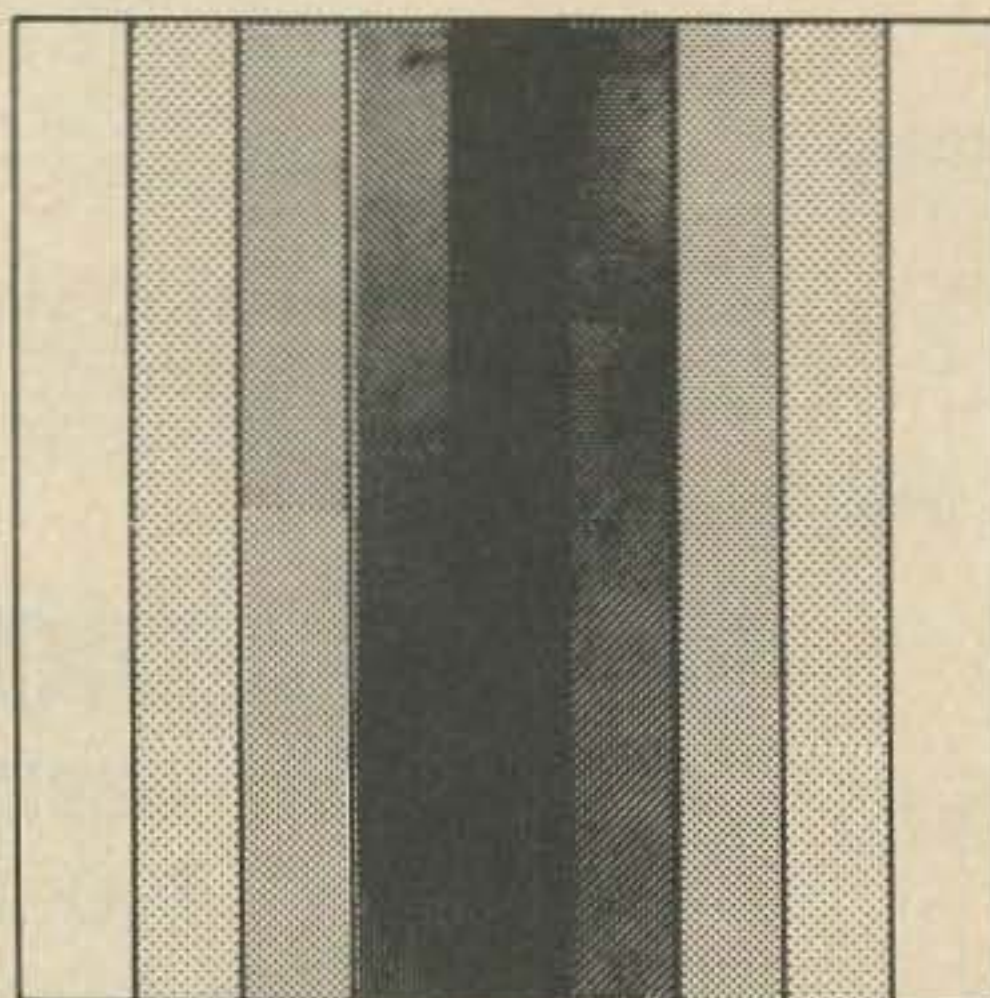

Fig. 1.
After I built this amazing little tone source that gives all the tones required for SSTV, and RTTY to boot, I was then tempted to make it even more useful to my needs in building my first monitor. I started building the monitor just for copying the weather satellites, but I have included all the normal SSTV parts in order to set it up and maybe even tune in on all the SSTV these days (on Oscar even!). The following is a small adapter to allow you to use the WØLMD tone source to produce an automatic gray scale for setting up your SSTV projects very accurately (see Fig. 1).
1. Counters, #1, #2, #3 are the 74193 ICs left to right in the original article Fig. 1.
required here, as you are probably used to seeing a decade encoder (7490) type IC driving a decade decoder (7445). The 7493 and some gating is used instead to allow very accurate width control to sync width on the gray scale pattern. The normal scan used in SSTV is a 5 ms scan and 1.6 ms sync and retrace period for the 15 Hz standard. This long sync allows for noise "masking" part of sync, etc., and is used much like the automatic line return on RTTY to insure a new line is in step with new information and not skewed. The 15 Hz standard yields a 120 lines times a 6.66... ms per line, or 8 second vertical period. With a ten line decoder it is convenient to use a nine or ten vertical stripe pattern, and I chose nine for two reasons. First it allows the generation of a 2300-2100-1900-1700-1500-1700-1900-2100-2300 format, nine stripe white to black to white pattern per Fig. 1. Since sync is "blacker-than-black," you can check your white to black transition response of filters, amps, etc., using the last bar. The use of the white and black bars for setting those levels is obvious and the same as a black or white only generator. Position "0" is left blank, and going to bar #1, white, will show both your overall response to noise in the filters, amps, etc., and another "rather" black to white transition. This is the sneaky reason for using a more than ten position encoder.